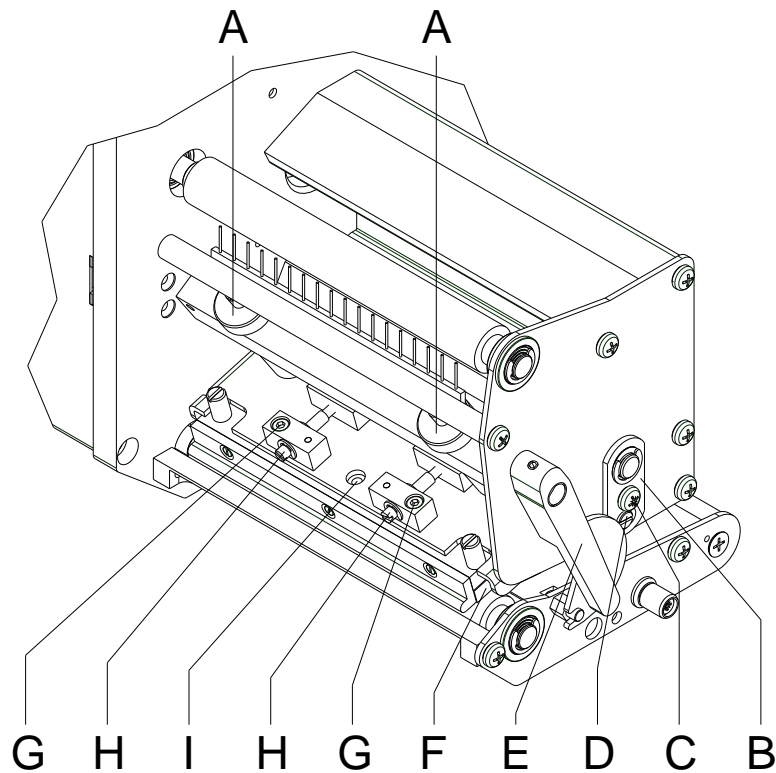

Figure 20
1. Turn the pressure screws (A, Figure 20) to change the pressure of printhead.
2. Turning of pressure screws (A, Figure 20) as far as they will go in clockwise direction results in a pressure increase of 10N in contrast to the factory settings.
3. Turning of pressure screws (A, Figure 20) exactly one rotation from the right stop position counter clockwise results in the factory settings.